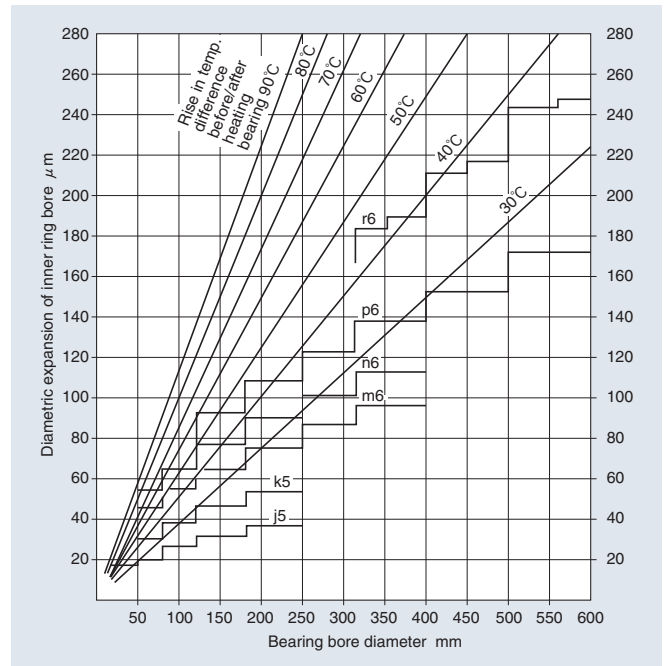

Fig. 10.19
(2) Shrink-fitting
- To install a medium or large bearing, a shrink-fitting technique can be conveniently employed. The heating temperature for shrink-fitting can be selected from **Fig. 10.19** based on the bearing dimensions and tightening allowance requirements. Remember the temperature of the bearing must not exceed 120°C.